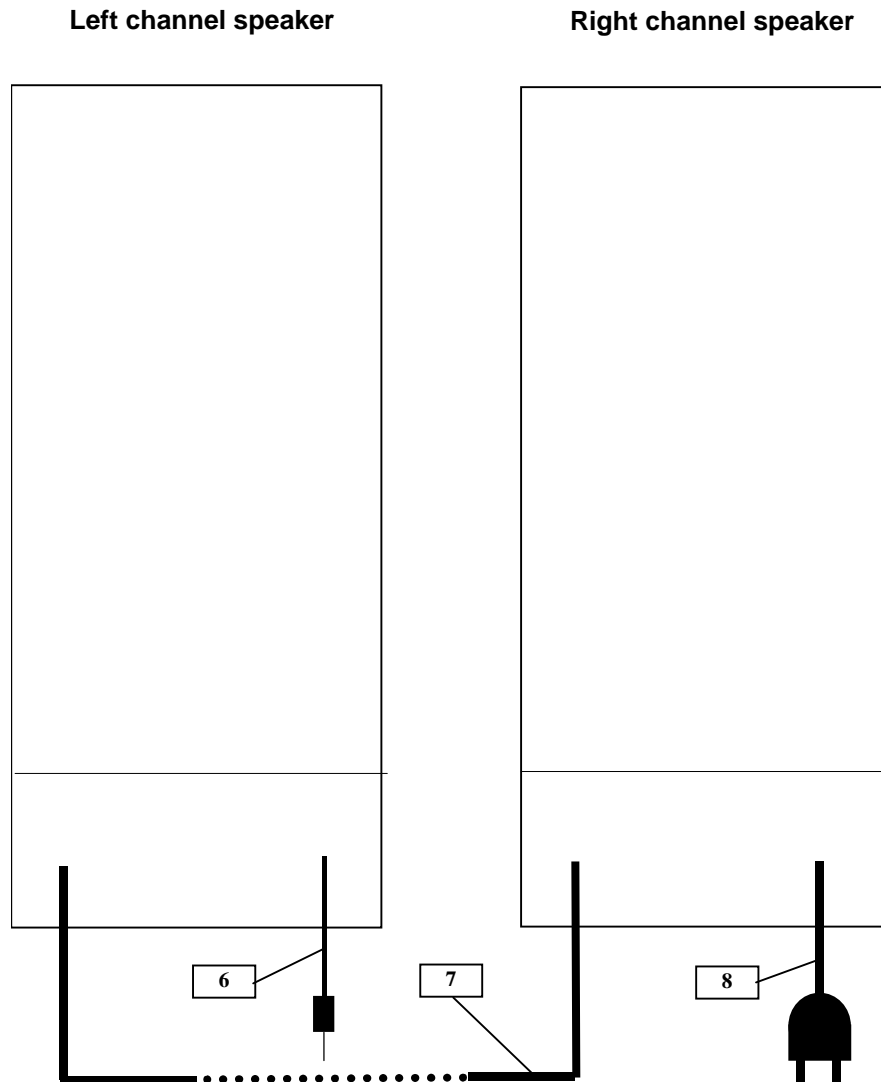

Figure 59 : Logitech X-140 speakers rear panels
The Logitech X-140 speakers rear panel (left channel speaker) includes connection to right speaker (See Figure 59).
- A3 (visual check): check that all cables are well plugged on the Speakers side, as well as on the others LRU side. Refer to the Figure 59.
- ☞ Refer to Figure 59.